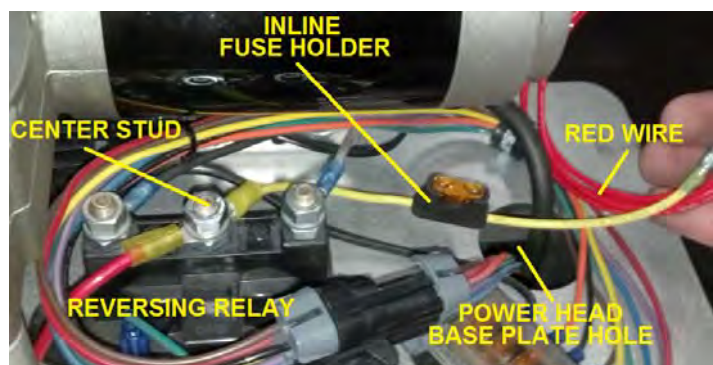

FIG. 11.6
7. Install $\frac{5}{16}$ " ring terminal on yellow wire with inline fuse holder over center stud. Replace nut, tighten securely. (FIG. 11.6).
- Route the red wire (attached to yellow fuse wire in FIG. 11.6) down through the cable access port (FIG. 5.6) and run parallel to the AC power cord down right side of lift tower behind wire hold-downs. (FIG. 5.7, 11.6). String red wire down to match the length of the other two plugs (FIG. 11.7).